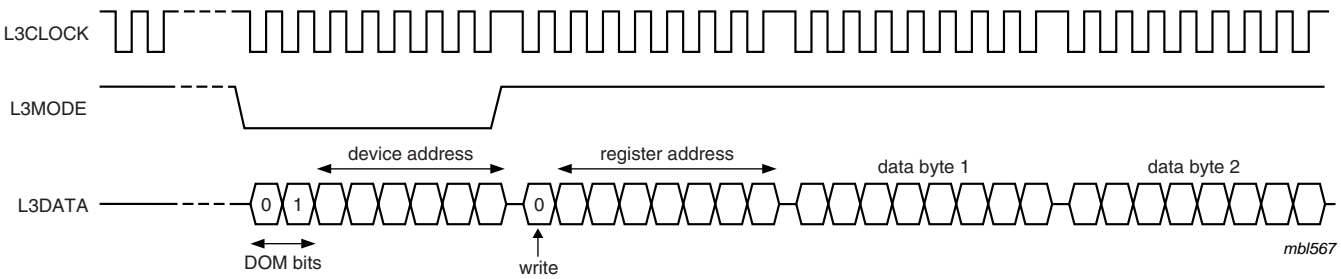

Fig 11. Data write mode
The address mode is used to select a device for a subsequent data transfer. The address mode is characterized by signal L3MODE = LOW and a burst of 8 pulses for signal L3CLOCK, accompanied by 8 bits; see Figure 11.
1. Addressing for write data: bit 0 is logic 0 indicating a write action to the destination register, followed by bit 1 to bit 7 indicating the register address; see Figure 11.
The data write mode is explained in the signal diagram of Figure 11. For writing data to a device, 4 bytes must be sent (see Table 14):